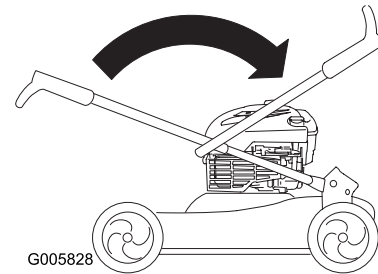

Figure 52
7. Fold the upper handle rearward as shown (Figure 52).